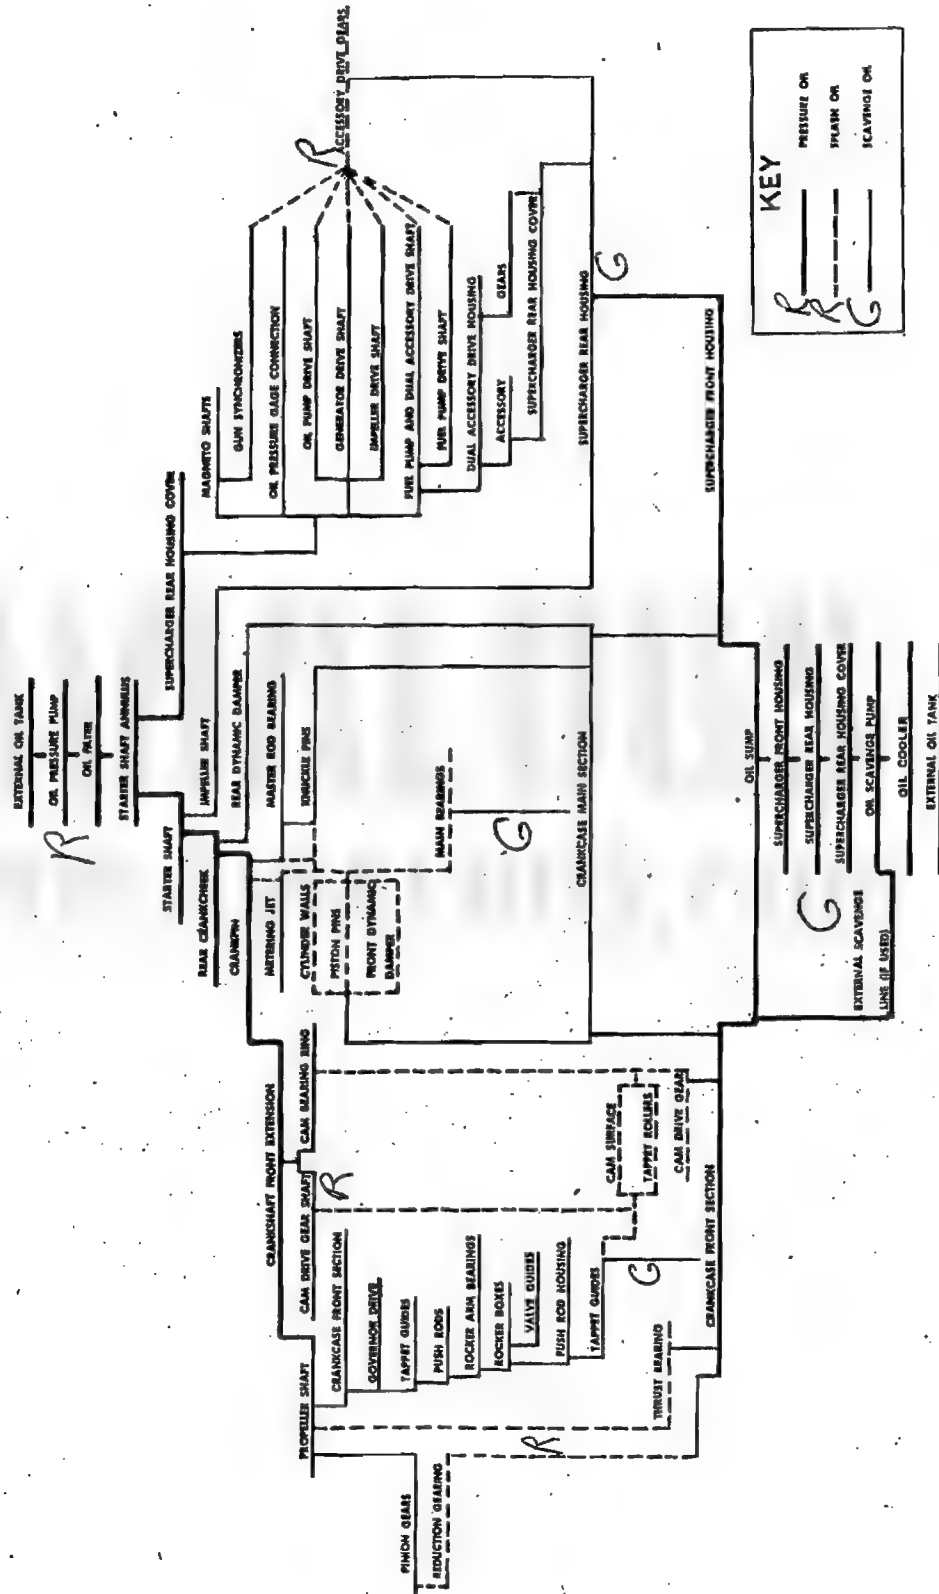

Figure 19—Lubrication Diagram
11. The lubrication system is of the full pressure type except for the cylinder walls, piston pins, crankshaft main bearings, and propeller shaft thrust bearing, all of which are lubricated by splash. See figure 19.